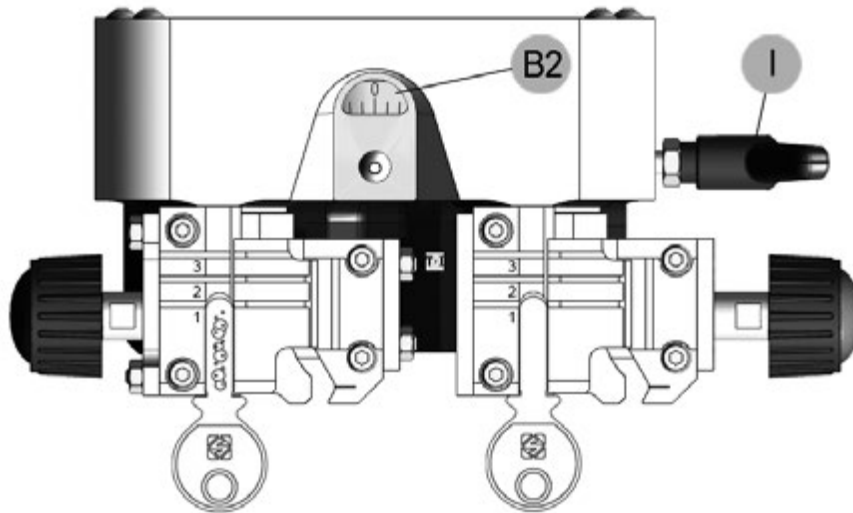

Fig. 44
- 1) Loosen the handle (I) to free the clamps and incline them to the chosen angle (see index (B2) on graduated drum) (Fig. 44).
- 2) Lock the clamps in place with the handle (I).